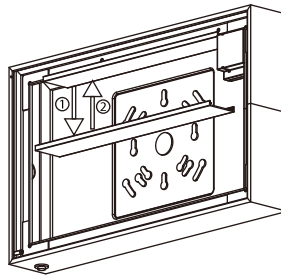

Figure 5
6. Connect AC supply per diagram provided (Figure 5). Insulate unused wire!
Secure the exit to the wall or ceiling using the supplied 1 1/2 inch screws and nuts. Screw directly to junction box if possible. A universal spider plate is supplied to allow for exit sign placement adjustment or connection to a variety of electrical boxes (Figure 5).
1. Plug the battery into the circuit board per (Figure 5) self-powered sign.